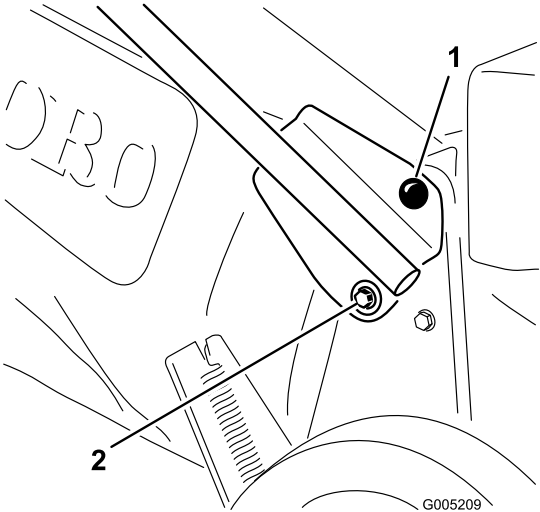

Figure 3
3. Rotate the handle back into its operating position and install the fasteners as shown (Figure 3).